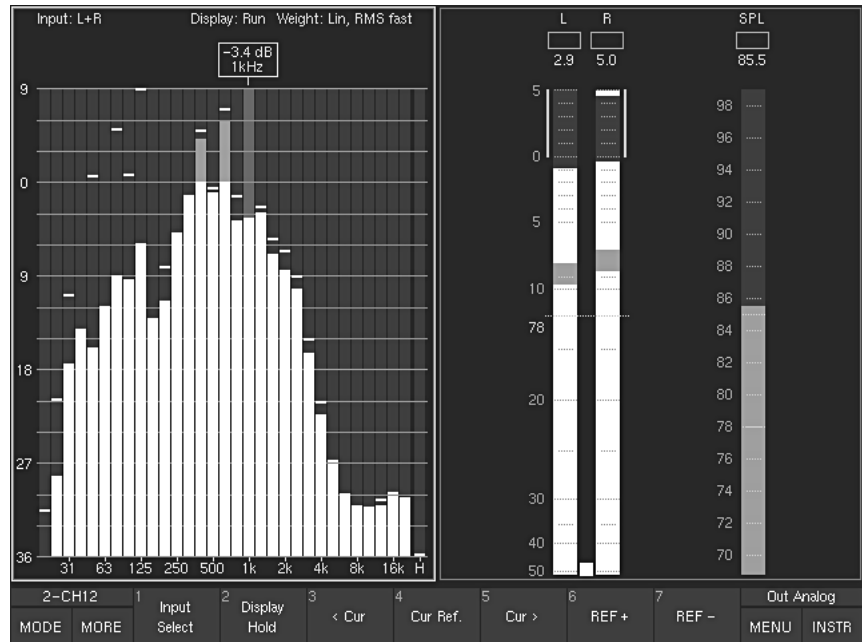

Fig. 5-26: First Toolbar function layer of the RTA instruments in 2-Channel Stereo mode. Select MORE to display additional functions (layer 2)
(First layer, button/key 1, see Fig. 5-26)
(First layer, button/key 2, see Fig. 5-26)
(First layer, button/key 3 and button/key 5, see Fig. 5-26)
(First layer, button/key 4, see Fig. 5-26)
(First layer, button/key 6 and button/key 7, see Fig. 5-26)